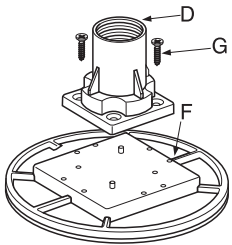

Figure 1
1. Place the shower tray in the intended area of installation and mark the waste position and the outline of the tray on the floor (see Fig.1).
1. Screw all the leg mounting brackets (D) to the upper square face of the base plates (F) using screws (G) (see Fig. 1).